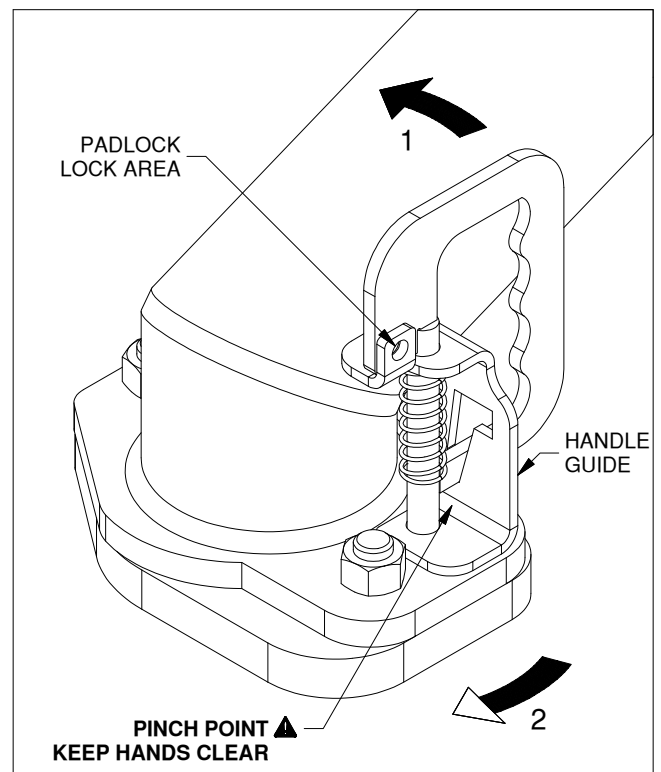

FIGURE B2: Coupler in "closed" position
- 4. Slowly lower the trailer onto the ball. When the ball is fully engaged in the coupler, set the coupler to the "closed" position. (1) To do this grip the handle and rotate it counter clockwise. (2) Rotate the coupler bottom plate clockwise until the latch pin is through the coupler bottom plate and the handle is flat against the bottom of the handle guide. See figure B2.
- 5. If desired, it is possible to lock the Extend-A-Goose for added security. With the coupler handle in the "closed" position, use a padlock in the area noted in Figure B2.